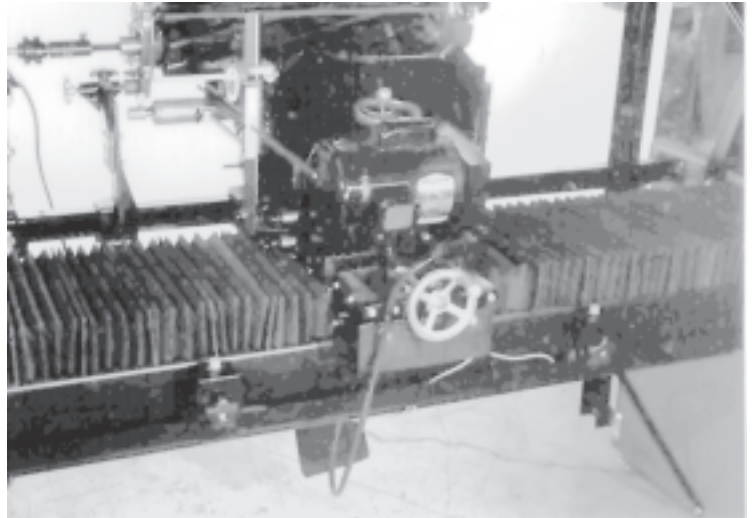

FIG. 58
- K. If grinding wheel is only making contact in one position of the reel, adjust the traverse stop so the carriage traverses slightly further than the contacted area. As you infeed and wheel makes full contact in this area, move traverse stop away 6 to 8". This will speed up the grinding process of getting a cone shaped reel into a perfect cylinder. See FIG. 58.